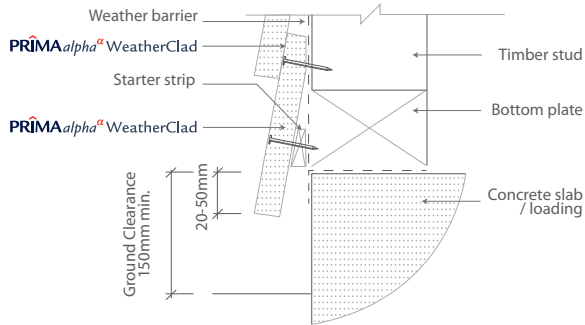
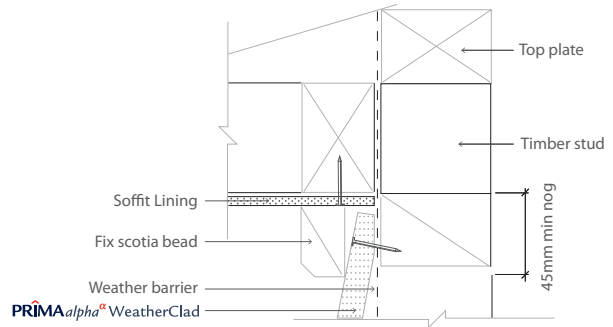

Figure 3: Foundation Detail
Figure 4: Soffit Detail
Provide a minimum of 150mm ground clearance between the bottom edge of **PRIMAalpha** WeatherClad (or starter strip) and the earth as shown in **Figure 3**. The plank must be overhang at the bottom plate on a concrete slab by 20- 50mm. Maintain a minimum of 50mm clearance between **PRIMAalpha** WeatherClad and roofs and decks, refer **Figure 4**.
7. Fix the first siding starting from external corner. Fasten the bottom edge of the siding to each stud or bottom plate through the starter strip, refer **Figure 3**.